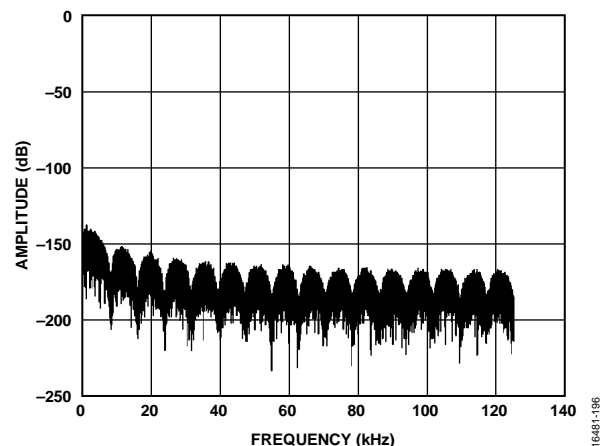

Figure 99. Example Filter Profile Upload
The following sequence programs a sinc1 filter. The coefficients in Address 0 to Address 23 = 0. The coefficients from Address 24 to Address 55 = 131,072 ($2^{22}/32$). When MCLK = 16.384 MHz and ODR = 256 kHz, the filter notch appears at 8 kHz and multiples of 8 kHz. This filter provides low noise and is recognizable by the distinctive filter profile shown in Figure 99.
- Gather data. The resulting filter profile is shown in Figure 99.